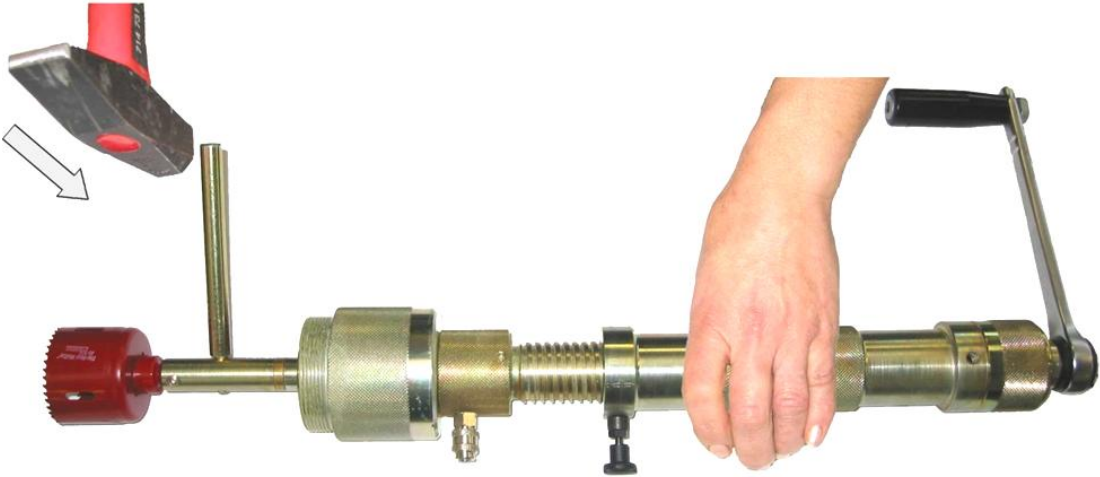

Fig 5
9. After removing the valve from the machine, place it on the ground and remove the cutter holder holder with the lever assembly and a ratchet. To start unscrewing give a rap with a hammer to the lever assembly located in the hole of the extension, holding at position shown in Fig. 5. Remove the tiller extension port, the cutter holder and the hole saw